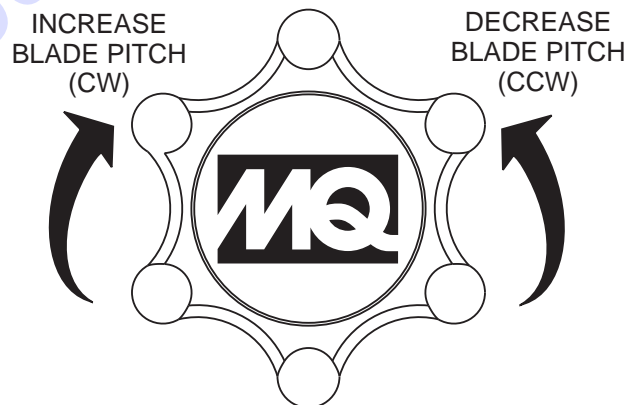

Figure 9. Blade Pitch Cable Adjustment (Standard Handle)
1. For trowels equipped with a **standard** handle (SXHC), turn the star wheel **counterclockwise** to release tension on the blade pitch cable. See Figure 9.